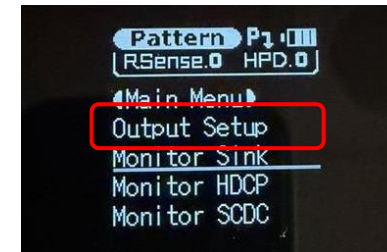

Figure 2
3. Scroll to Output Setup and press Enter. (figure 2)